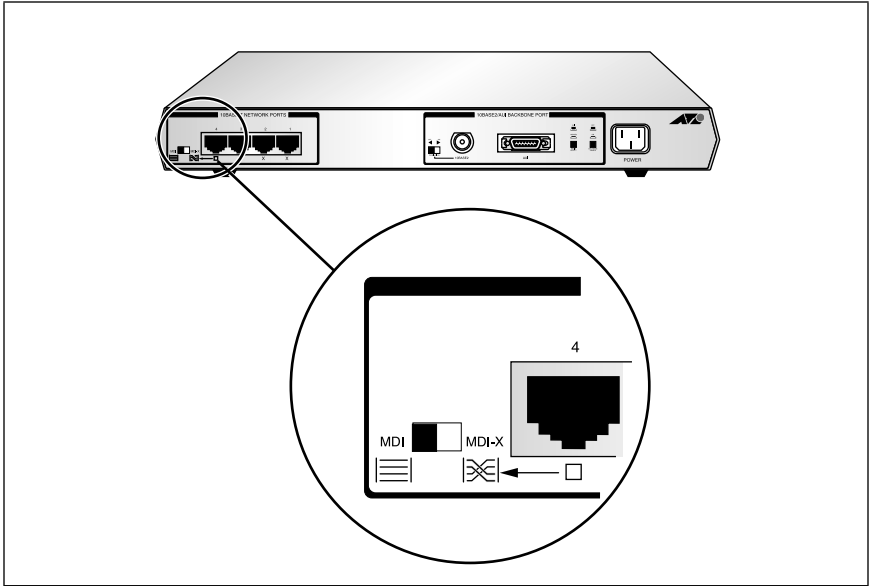

Figure 16: Uplink Port for MR420TR/820TR
second unit. A maximum of four repeaters (the four repeater rule) can be interconnected. The network effectively consists of 6 nodes for the AT-MR420TR and 14 nodes for the AT-MR820TR. The Uplink port is located on the back panel, as shown in Figure 16.
An MDI/MDI-X switch is a crossover/straight-through cable selection slide switch. As shown in Figure 16, the MDI/MDI-X switch converts the 10Base-T (RJ45) Port 4/ 8, to an uplinkable port that allows one repeater to connect to another repeater without requiring special crossover cables.
- ❑ In the MDI configuration — the slide switch is to the left — you can connect the 10Base-T port to another 10Base-T internal crossover port, that is, a repeater using straight-through twisted pair cable to form an interrepeater link. See Figure 16.